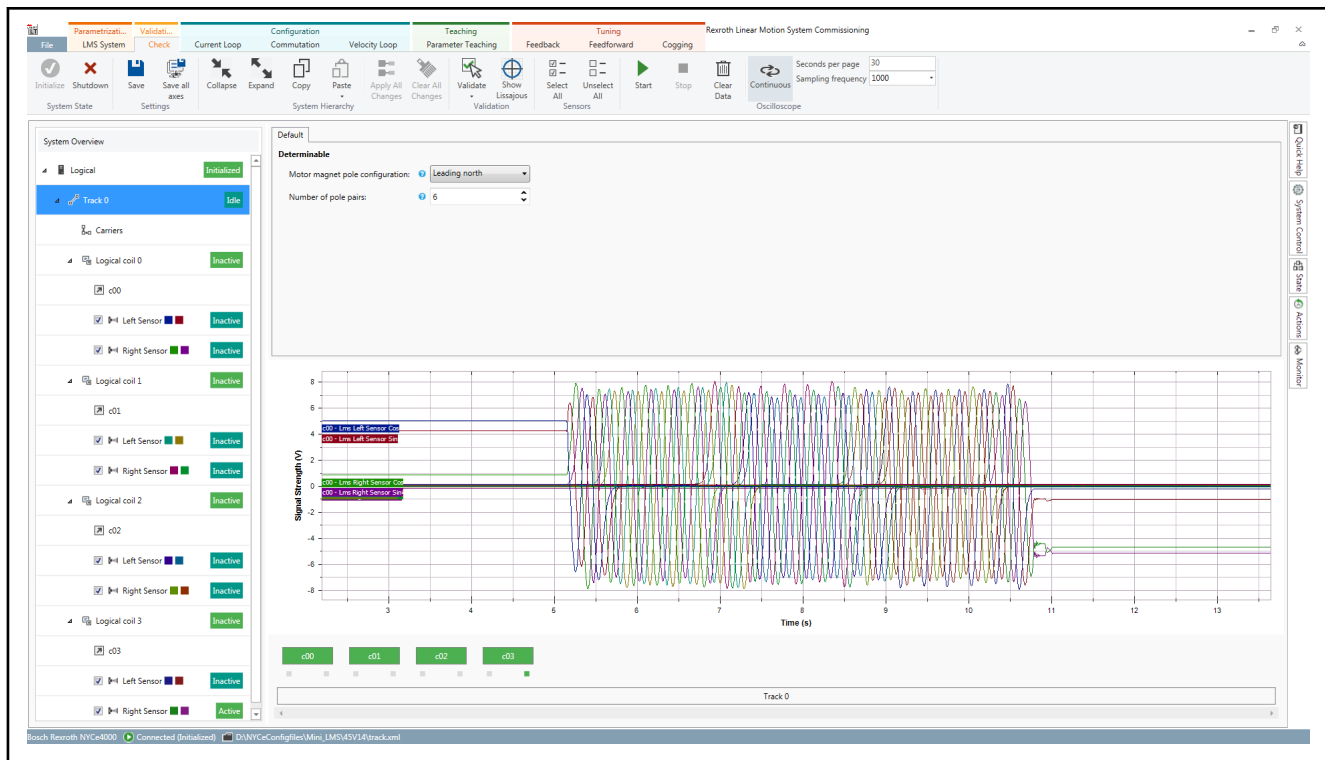

Fig. 4-9: Validation - sensor signals
7. Click the "Stop" button to stop the oscilloscope after the trace is completed. See fig. 4-9 "Validation - sensor signals" on page 22 for the resulting time trace of the sensor signals.